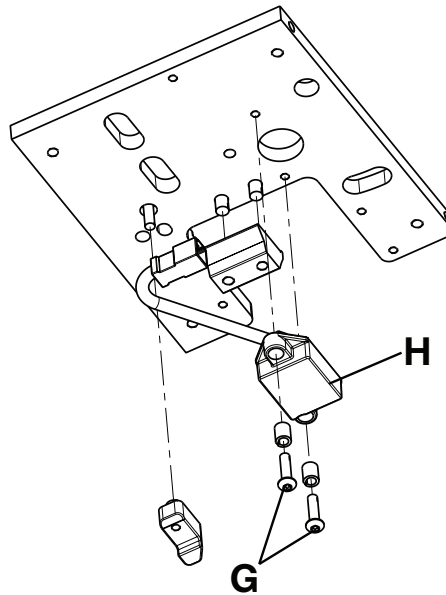

Figure 30 – TPS assembly bottom view
7. Using a 1/4" ratchet and a T25 Torx driver, remove the two button head cap screws (G) that secure the TPS assembly (H) (Figure 30). Save the screws.